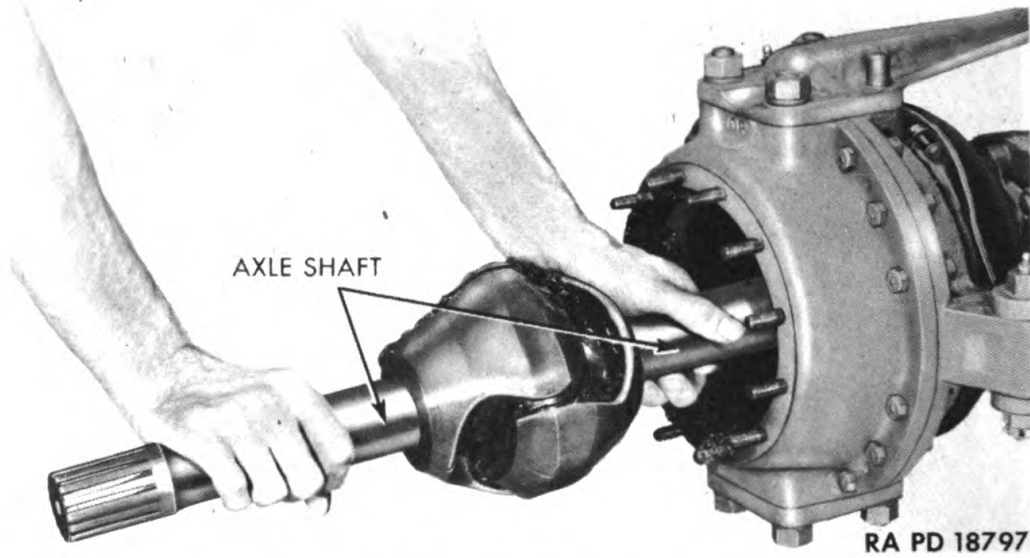

Figure 30 — Removing Front Axle Shaft
g. Disassemble Axle Shaft. Remove axle shaft from housing (fig. 30). Remove retainer pin from universal joint, using small pin punch and hammer (fig. 31). Slide center ball pin out of drilled center ball (fig. 32), or bounce the wheel end of the shaft on a block of wood to cause the center ball pin to move into the drilled passage in the wheel end of the axle shaft. Pull the two halves of the joint apart. With the fingers, turn the center ball so